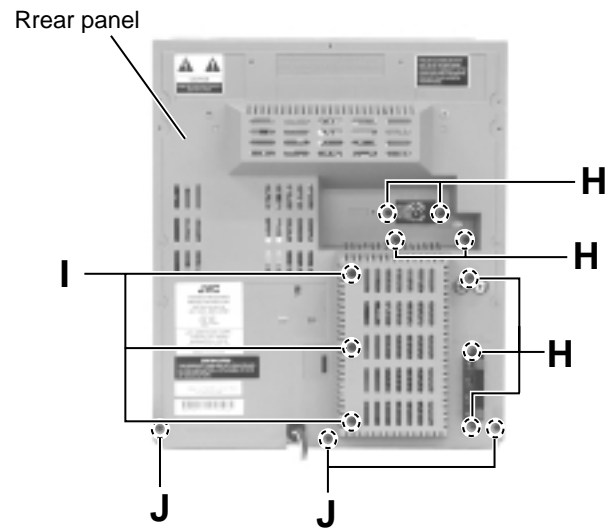

Fig.14
■Removing the rear panel (See Fig.14)